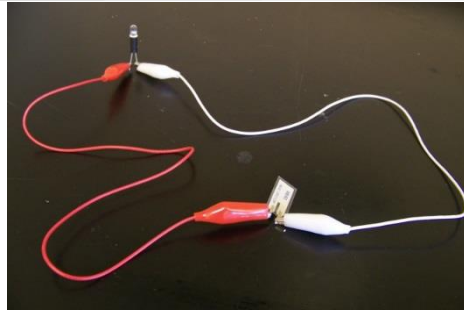

Figure 2. LED and piezoelectric polymer film connected by alligator clips
2. Connect 1 LED to a piezoelectric polymer film so that the long wire of the LED is connected to wire coming from the piezoelectric material, and the short wire on the LED is connected to the other wire of the piezoelectric film. Use the supplied alligator clips to make these connections (Figure 2).